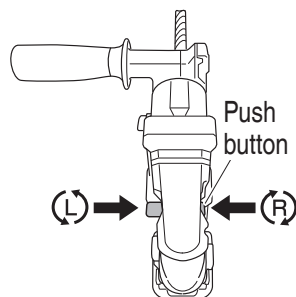

Fig. 11
6. Confirm the direction of bit rotation (**Fig. 11**)